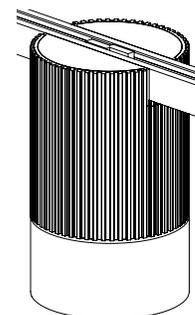

Fig. 35
2. Align the assembly from step 1 with the **Light Engine** (Fig. 35).
3. Screw the assembly from step 1 to the **Light Engine** (Fig. 35).